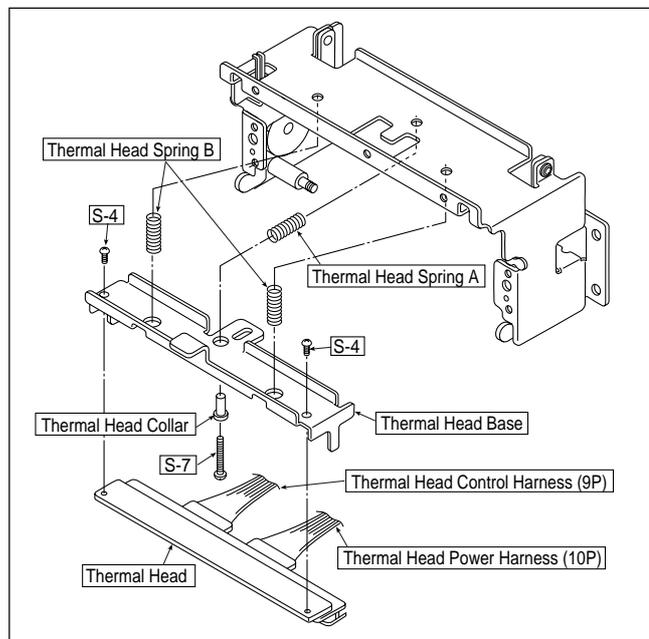

Fig. 15
13) Remove the Thermal Head. (See Figure 15.)
1. Remove the "S-7" screws as shown in Figure 15. (Tightening torque :  $8 \pm 2.4 \text{kgfcm}$ )
3. Remove the "S-4" screws as shown in Figure 15 and remove the Thermal Head from the Thermal Head Base. (Tightening torque :  $8 \pm 2.4 \text{kgfcm}$ )